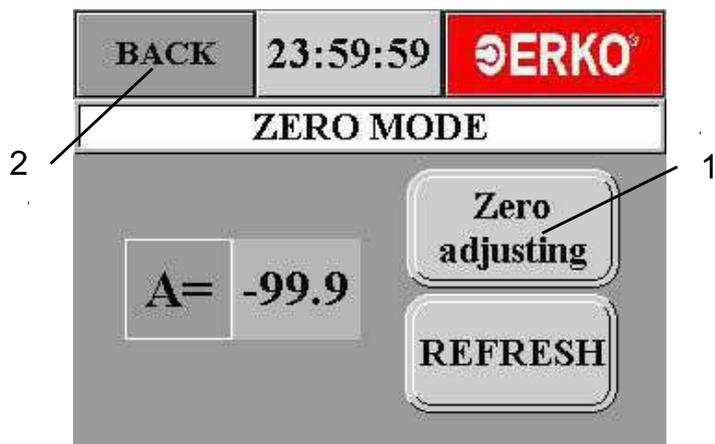

Fig.12
- Press the button of zero adjusting [1] Fig. 12 (Reading value with minus should appear on the control panel)
- To leave the service mode, press the button in the upper left corner [2] (Fig.12)